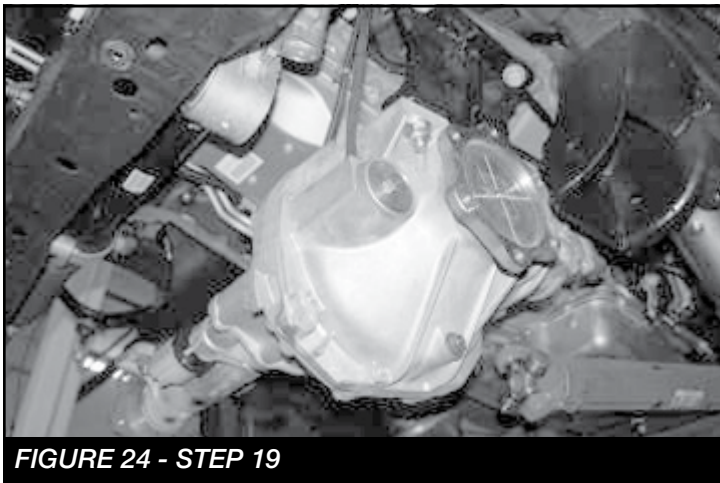

FIGURE 24 - STEP 19
19. Locate the supplied $\frac{1}{2}$ " x $1\frac{3}{4}$ " and $\frac{9}{16}$ " x $1\frac{3}{4}$ " hardware and the front diff. Install the diff onto the new drop brackets using the $\frac{1}{2}$ " hardware on the driver's side and the $\frac{9}{16}$ " on the passenger side. Torque the $\frac{1}{2}$ " hardware to 75 ft-lbs. and the $\frac{9}{16}$ " to 95 ft-lbs. Re-connect the electrical and vacuum connections back onto the diff. **(CHECK THE CLEARANCE OF THE DIFF TO THE FRAME IN SANDED AND CUT SPOTS ON THE DIFF. FOR ADAQUATE CLEARANCE TO THE FRAME AND CROSSMEMBER). SEE FIGURE 24**